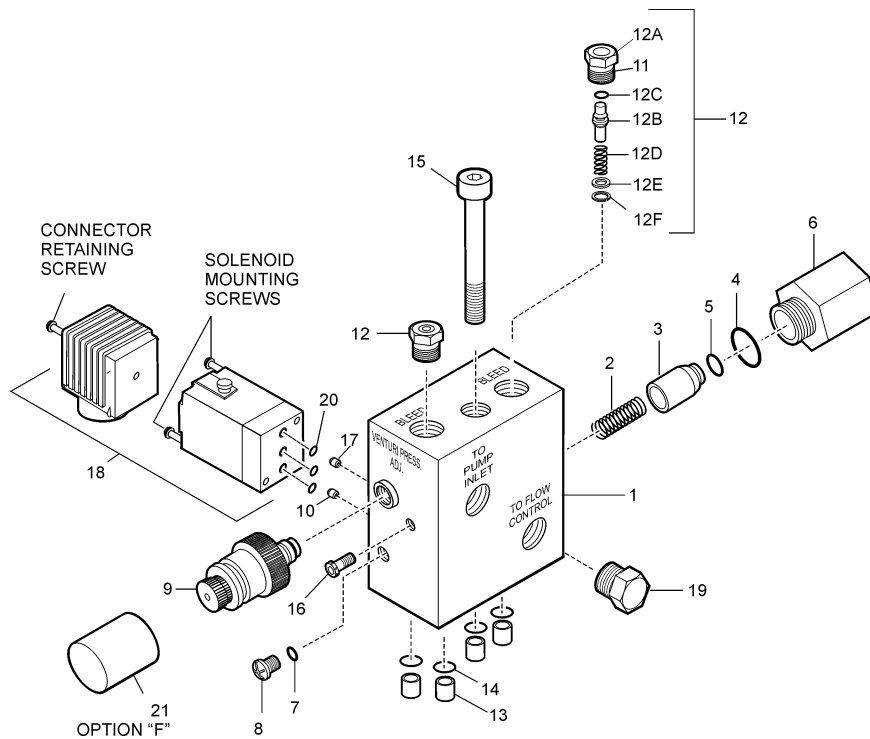

Figure 2 – Manifold Parts Breakdown
- 6.5.7 If either bleed valve was disassembled begin by placing O-ring (2-12C) over the Poppet (12B). Lay Plug (2-12A) upside down and insert assembled (2-12B) [Reference Figure 2]. Place Spring (2-12D) over the shaft of Poppet (2-12B). Place the Washer (2-12E) on the Spring (2-12D). Compress assembled unit thus far and use snap or lock ring pliers to separate the Retainer (2-12F) and install in the retainer groove on the inside diameter of the bleeder Plug (2-12A).
Reference Figure 2